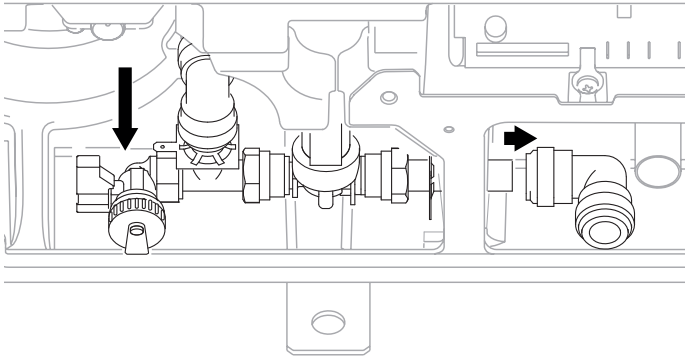

Figure 17: Inlet assembly removal
- ▶ At either end of the inlet control assembly are two 15mm push fit connectors. Remove the inlet control assembly by releasing the two push fit connectors, one from the internal tank and the other from the cold water feed pipe, see figure 17.